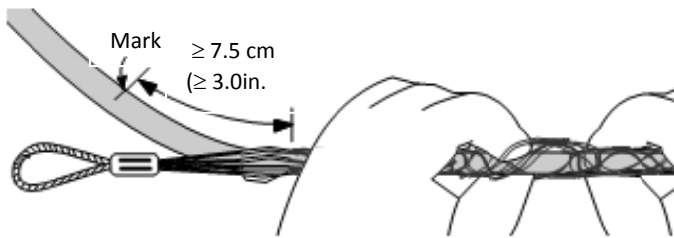

Figure 7
4.6 Use a pumping action to “walk” the grip over the cable by bringing your hands together and then relaxing them until the end of the grip is at least 7.5 cm (3 in.) beyond the mark made in step 4.5 (Figure 7)